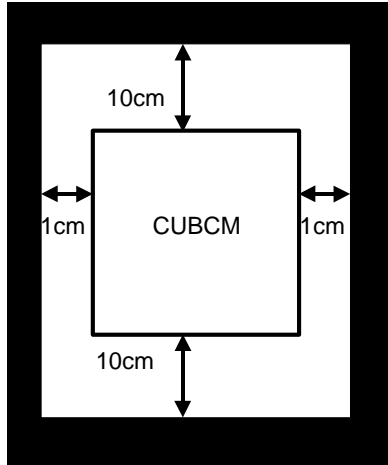

Figure 2-2-1 Installation direction and surrounding space
2. Heat is generated while the inverter is operating, so the gaps shown in Figure 2-2-1 are necessary for the passage of cooling air. The generated heat is radiated upward by the built-in cooling fan, so do not install this product below a device that is sensitive to heat.